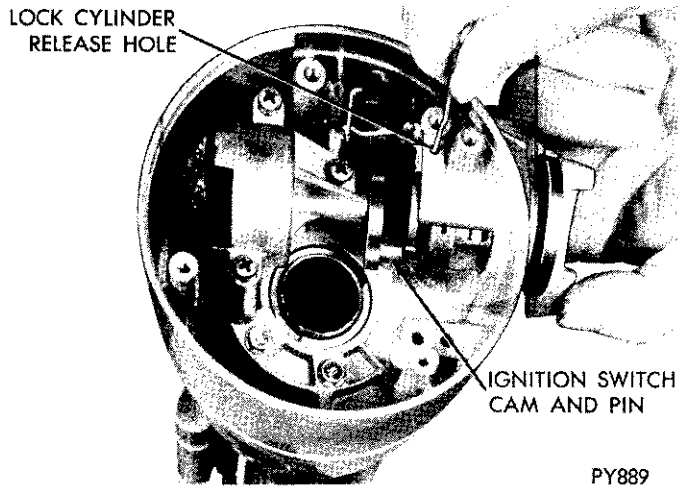

Fig. 11—Removing Lock Cylinder
- (3) Place cylinder in "lock" position and remove key. Insert a small diameter screwdriver or similar tool into lock cylinder release hole and push in to release spring loaded lock retainer. At same time pull lock cylinder out of housing bore (Fig. 11).
- (4) Remove the three retaining screws and the ignition switch assembly (Fig. 11).